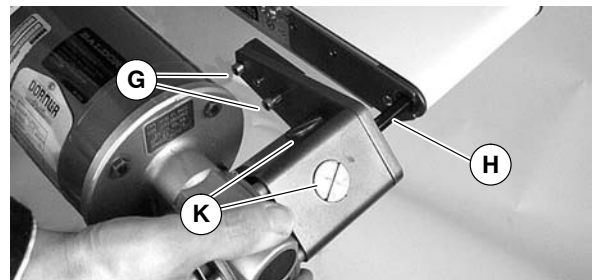

Figure 10
6a. Insert hex shaft (H of Figure 10) into coupling.
8a. Replace inspection plugs (K of Figure 10). Insert hex shaft (H) into drive pulley hex bushing and slide drive against conveyor. Install two (2) screws (G). Tighten to 80 in-lb (9 N-m).